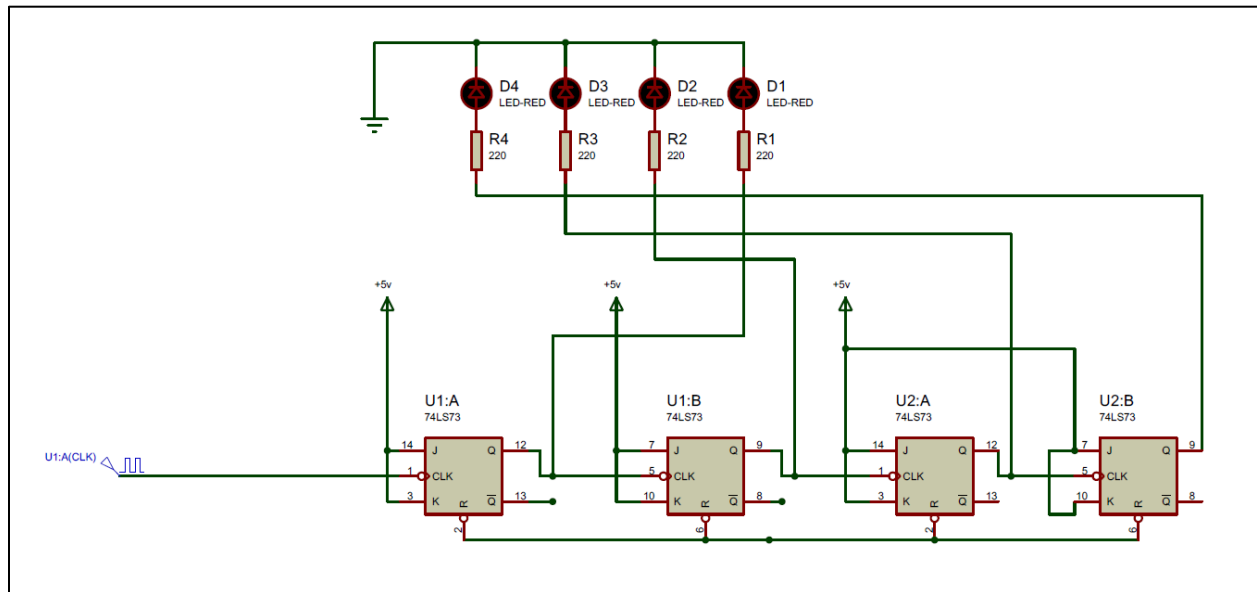

Figure 12-7: Simulation Circuit diagram of Hexadecimal Up counter using JK Flip-Flops
STEP 2: Refer Figure 12-7 and study the circuit diagram and its connections. (Proteus simulation circuit diagram too is provided for user's ease of understanding the circuit and as an assistance to conduct simulations using Proteus software)